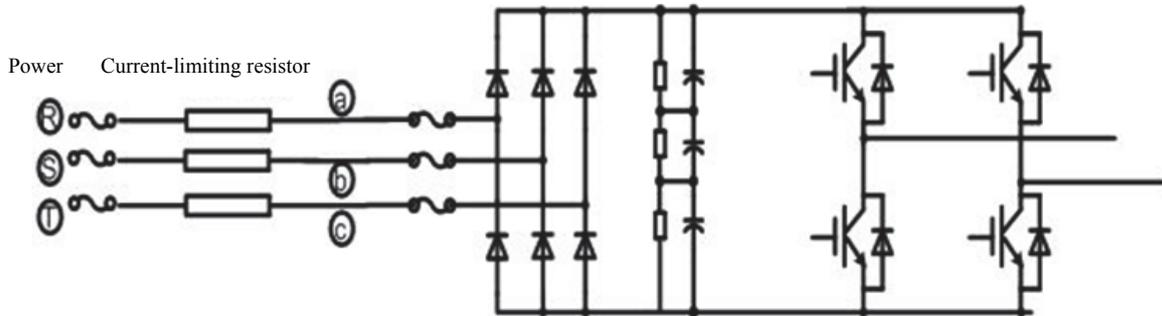

Fig. 10-12 Power Unit Circuit Diagram
- Electrical connection: three-phase power connected to three-phase current-limiting resistor, and then connect power unit input terminal. Current-limiting resistor and connection of electrical connection are shown in figure 10-12 and 10-13. (different power units may have different mechanical designs, as for electrical connection please choose the hung-up side of fuse)